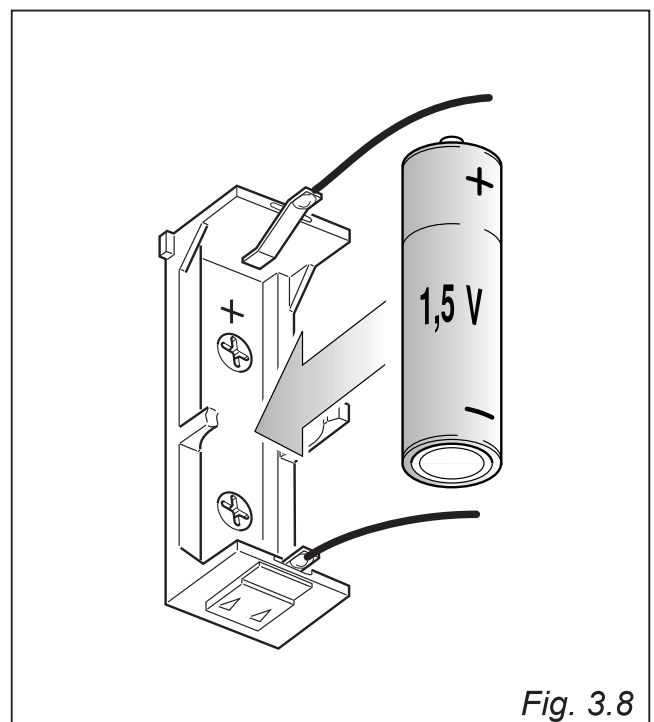

Fig. 3.8
- Insert a type AA battery (1.5 Volt) into the battery holder (fig. 3.8).
- Check for correct polarity (fig. 3.8).